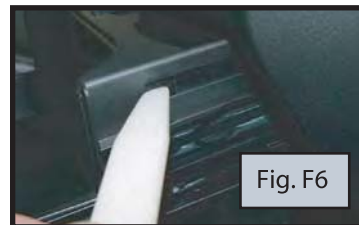

Fig. F6
- i. Depress small tab on both sides of sliding cup holder assembly. (Fig. F6)